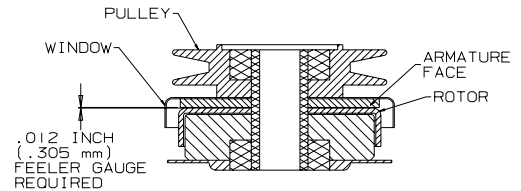

Figure 2
3. Insert a .012 inch feeler gauge into one of the three windows. Be careful to position the feeler gauge between the rotor and armature faces. (figure 2)